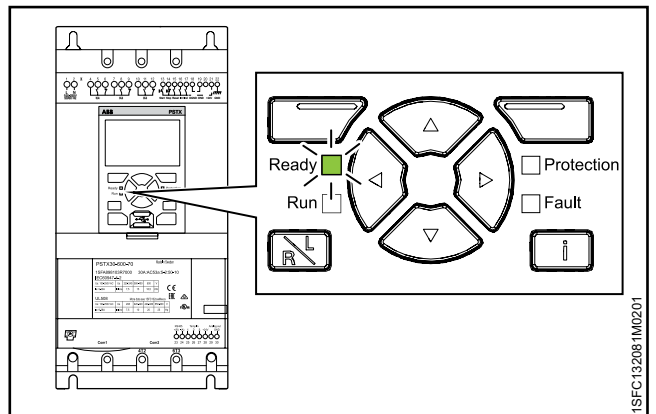

Figure 2.7
- The green "Ready" LED on the HMI flashes, see **Figure 2.7**.